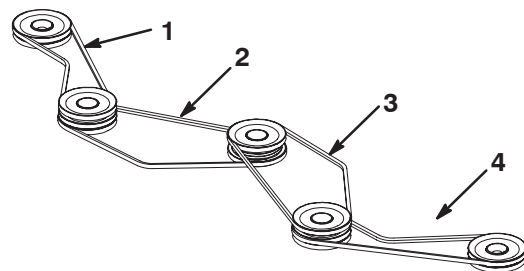

Figure 70
7. Replace belt(s) as required. Install on pulleys as shown in figure 70.